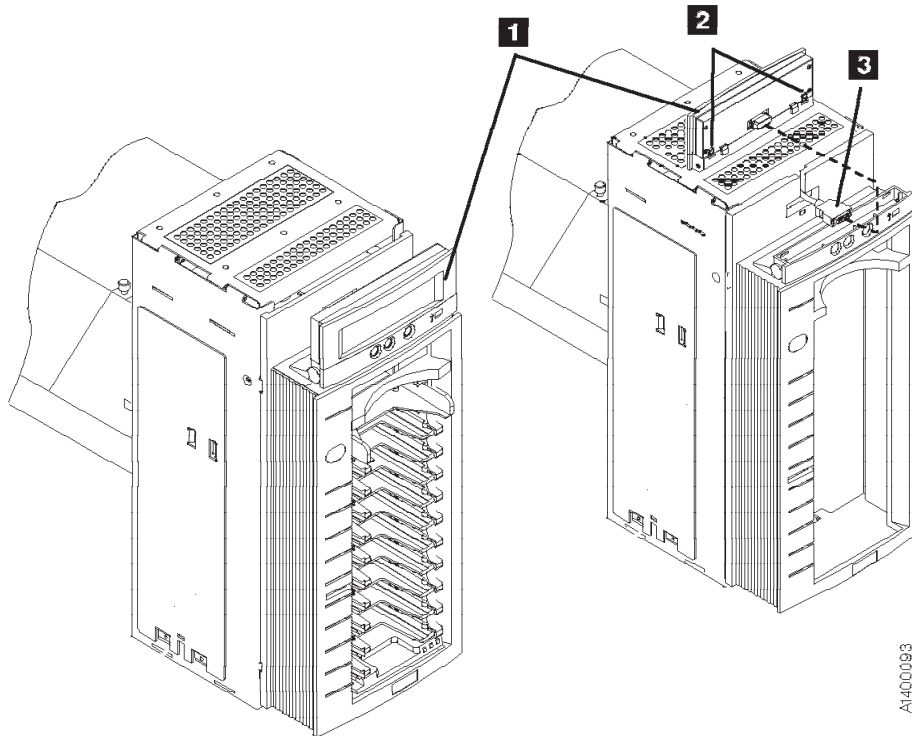

Figure 10-4. Operator/CE Panel, Model B11/E11/H11
2. See Figure 10-4. Press the two buttons **2** on the rear of the panel **1**.